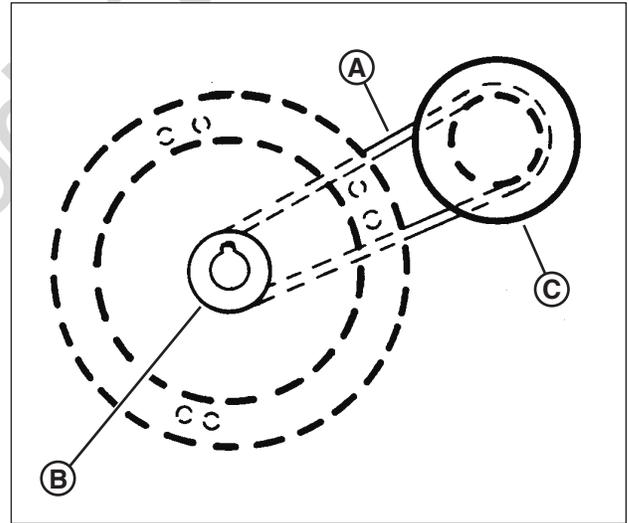

Figure 33: Engine drive belt routing
On self-propelled mowers, the engine belt (A, Figure 33) transmits power from the engine pulley (B) to the drive disc (C). The drive disc powers the poly-v belt, which engages the transmission that powers the rear wheels. Should these belts become worn, they could cause slippage, which would impair mower performance.
2. Note the belt routing (Figure 33). There is no idler pulley on these models to disconnect.